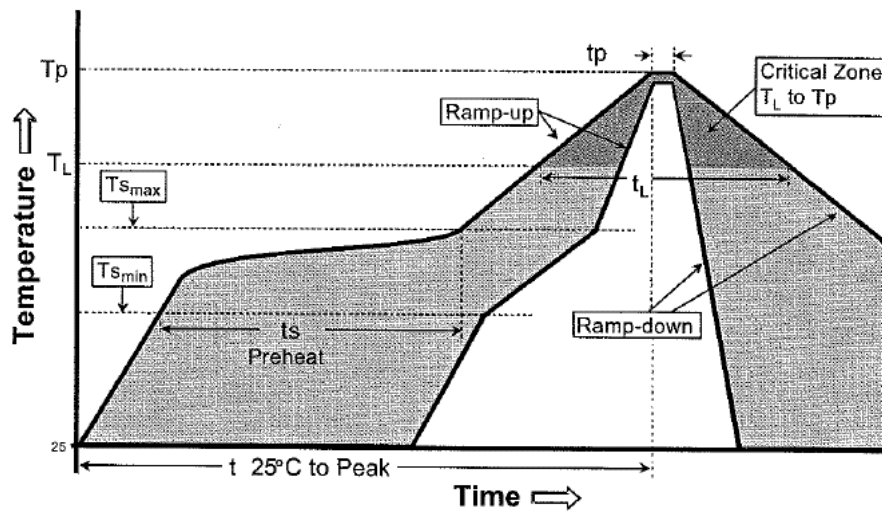

Figure 5 – Temperature profile
2. Perform a reflow process according to the temperature profile detailed in table 3 and figure 5 of page 9.
This antenna footprint applies for the reference evaluation board described in page 4 of this User Manual. Feeding line dimensions over the clearance zone described in figure 5 applies for a 0.8 mm thickness FR4 PCB.